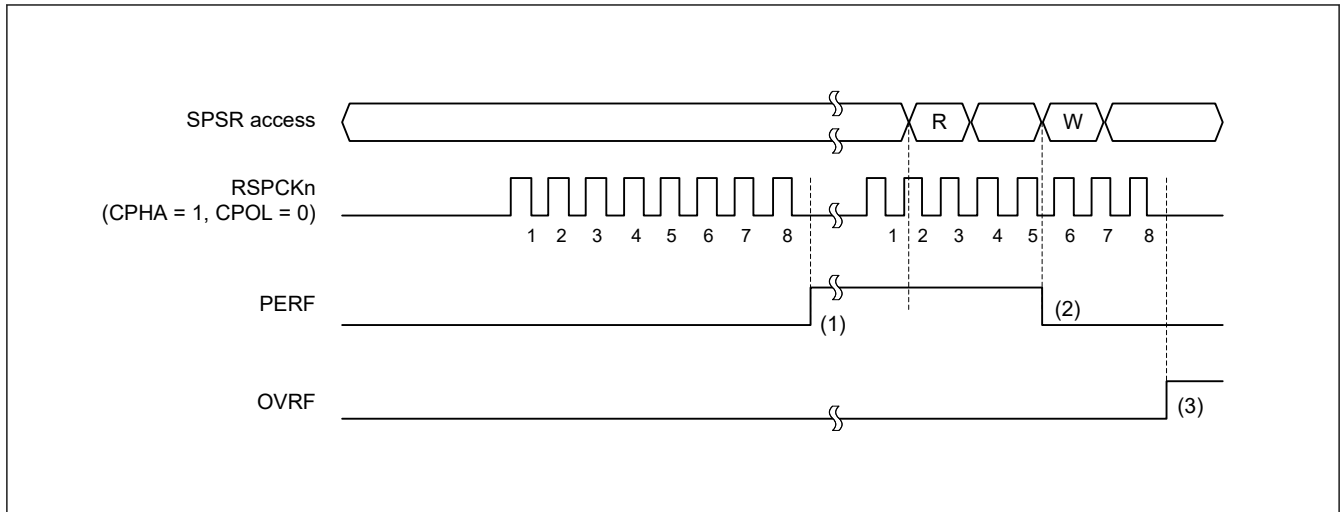

Figure 28.31 Operation example of the OVRF and PERF flags
Figure 28.31 shows an example of operation of the OVRF and PERF flags. The SPSR access shown in Figure 28.31 indicates the condition of access to the register, where W denotes a write cycle, and R a read cycle. In this example, full-duplex serial communication is performed while the SPCR2.SPPE bit is 1. The SPI performs an 8-bit serial transfer when SPCMD0.CPHA bit is 1 and the SPCMD0.CPOL bit is 0. The numbers given for RSPCKn in the waveform represent the number of RSPCK cycles, such as the number of transferred bits.
The operation of the flags at timings (1) to (3) in Figure 28.31 is as follows: